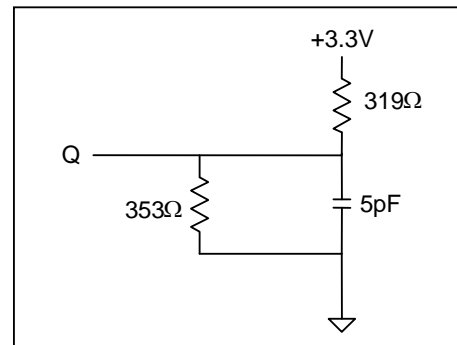

Figure 2
3. The load used for V_{OH}, V_{OL} testing is shown in Figure 2. AC load current is higher than the shown DC values. AC I/O curves are available upon request.
2. Output loading is specified with $C1=5\text{pF}$ as in Figure 2.